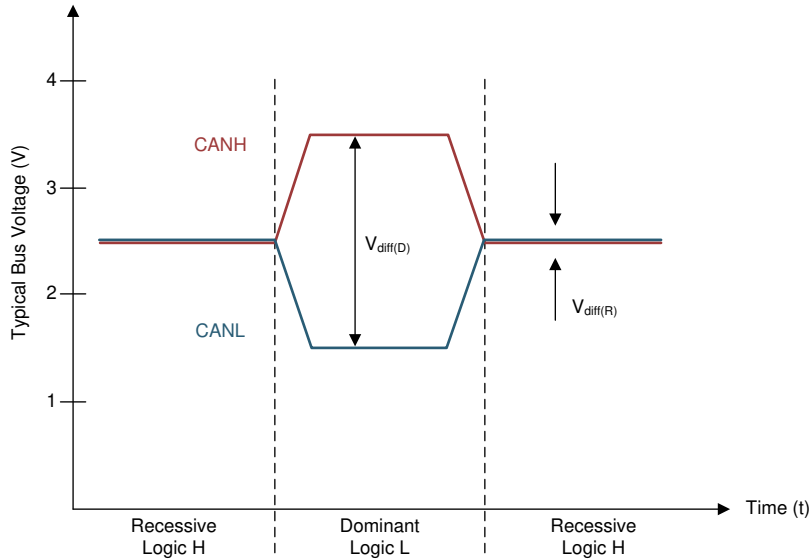
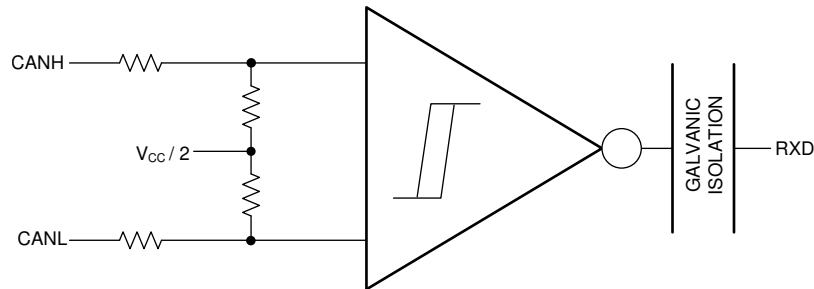

図 8-1. Bus States (Physical Bit Representation)
図 8-2. Simplified Recessive Common Mode Bias and Receiver
The CAN bus has two states during operation: *dominant* and *recessive*. A dominant bus state, equivalent to logic low, is when the bus is driven differentially by a driver. A recessive bus state is when the bus is biased to a common mode of $V_{CC} / 2$ through the high-resistance internal input resistors of the receiver, equivalent to a logic high. The host microprocessor of the CAN node uses the TXD pin to drive the bus and receives data from the bus on the RXD pin. See Figure 8-1 and Figure 8-2.
- (1) H = high level, L = low level, Z = common mode (recessive) bias to $V_{CC} / 2$. See 图 8-1 and 图 8-2 for bus state and common mode bias information.